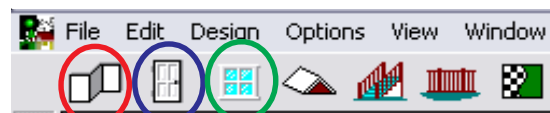

Figure 11
1. **Click** the wall tool which is circled in red in **figure 11**. On the right side of the screen, a menu will show up.
1. Make sure the wall tool is still selected as was described in **figure 11**. Move inside the outside walls and **click** and **hold** the **left mouse button**. **Drag the mouse**. A wall should appear when you let go of the left mouse button. The size of the wall being drawn will be displayed as you draw it.